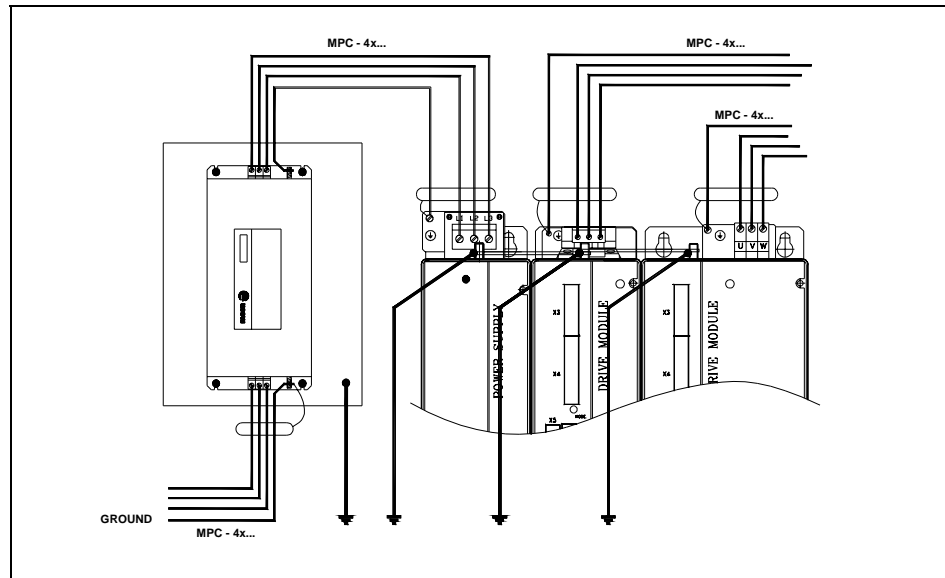

fig.19 Ground connection.
- Make all the ground connections indicated in fig.19, with a cable having a section equal to or greater than the three - phase power supply and at least 6 mm².